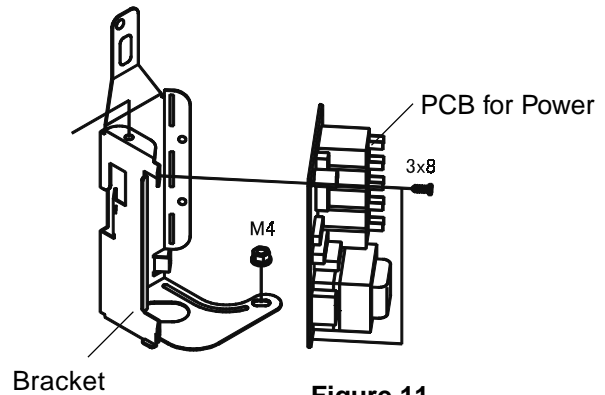

Figure 11
- (1) Remove the cabinet(frame).
- (2) Remove 2 screws securing the P.C.B for Power with bracket to the cavity. (Figure 11)